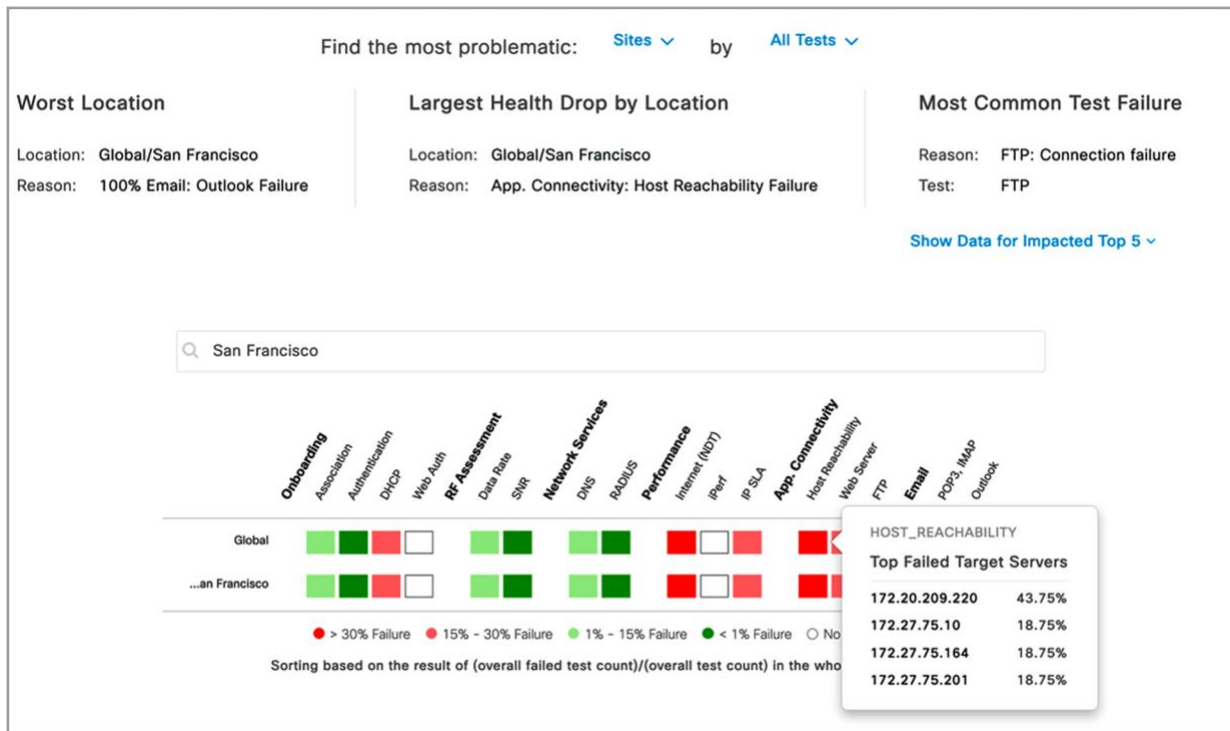

Figure 82.
- e. Click each of the test types within the heatmap (Onboarding, RF Assessment, Network Services, Performance, App Connectivity, and Email Test) to see a drilled-down view of the test results (**Figure 82.**)
- f. The top half of the Test Results dashlet displays a summary of the test results (Figure 82).
- g. To filter the insights by specific locations and/or tests, click the Sites and All Tests drop-down menus to make a selection (Figure 82).
- h. View the heatmap in the bottom half of the Test Results dashlet to visualize the sensor test breakdown for each configured test (Figure 82).
- i. To search and filter the heatmap, type a location or sensor name in the search bar located above the heatmap (Figure 82).
- n. Click the SNR heatmap test result to see a cognitive navigation and drill-down view (**Figure 82.**).